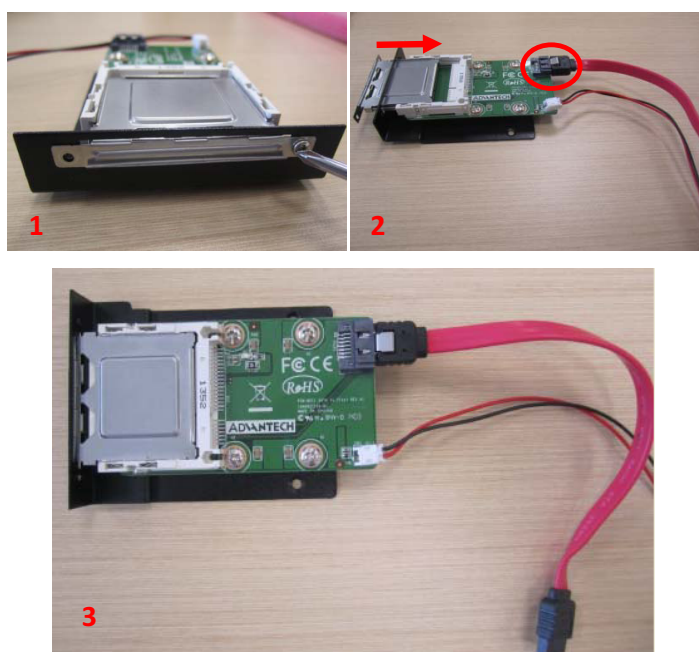
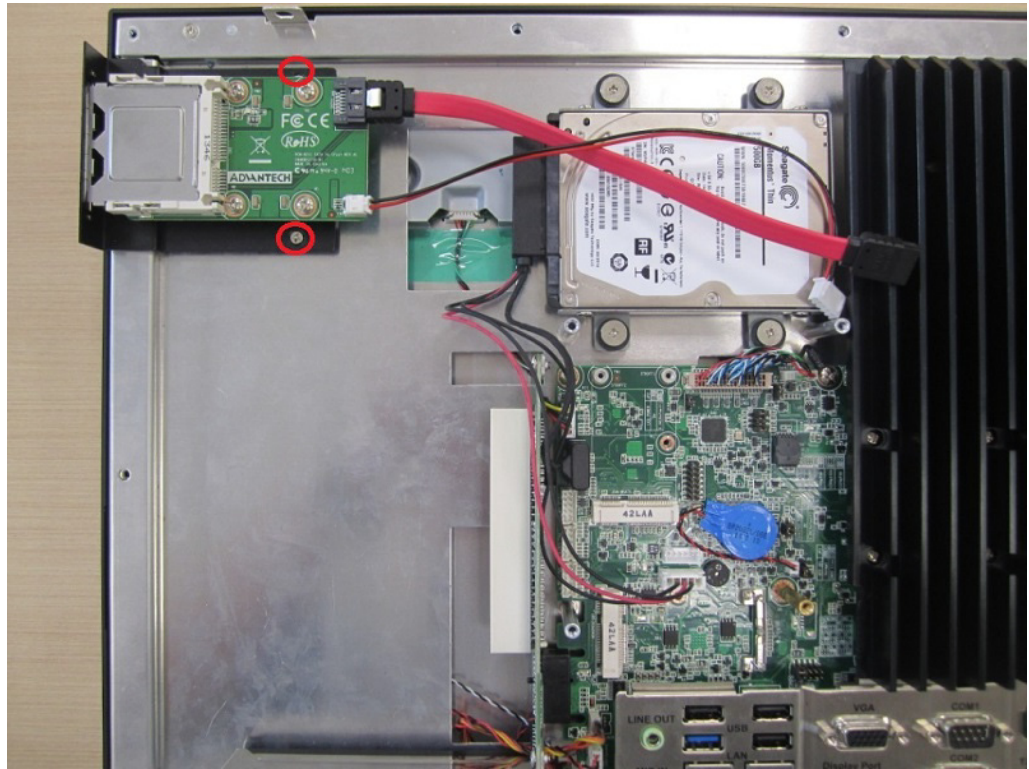

Figure 2.39
Figure 2.40
- Retrieve the CFast module card from the module case and remove the two screws located at the side (1) of the metal tray. Affix the CFast card to the underside of the metal tray. Then insert the tray in the direction shown in Fig.2.39 (2) and connect the red SATA cable (3). The assembled CFast module should appear as shown in Fig. 2.40.